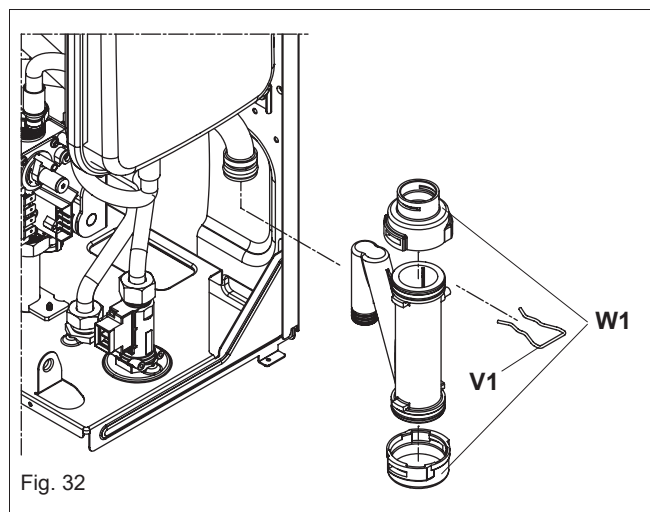

Fig. 32
6.19 CONDENSE TRAP REMOVAL (fig. 32)